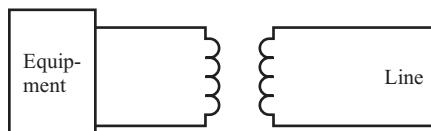

FIGURE 10.10
- 15** Because most electronic equipment does not have a 600-ohm output impedance, a transformer is often used to connect such equipment to a line. Often, the transformer is built into the equipment for convenience. The transformer is used to “match” the equipment to the line, as shown in Figure 10.10.